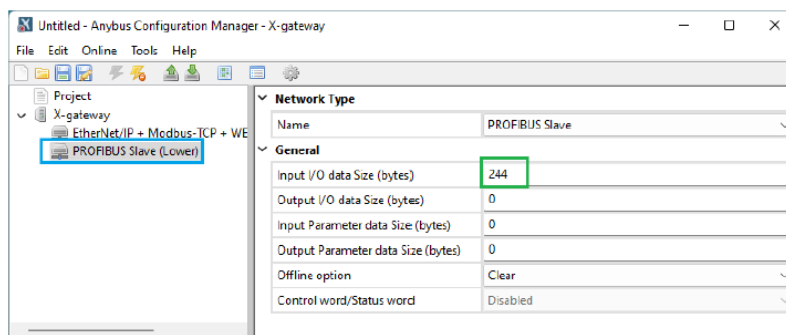

Figure 8.42
7. Select the lower network as highlighted in blue in Figure 8.42
8. Adjust the Input I/O data Size as highlighted in green in Figure 8.42. Since monitoring the fault bytes and heartbeat is essential, the minimum usable size is 82 bytes.